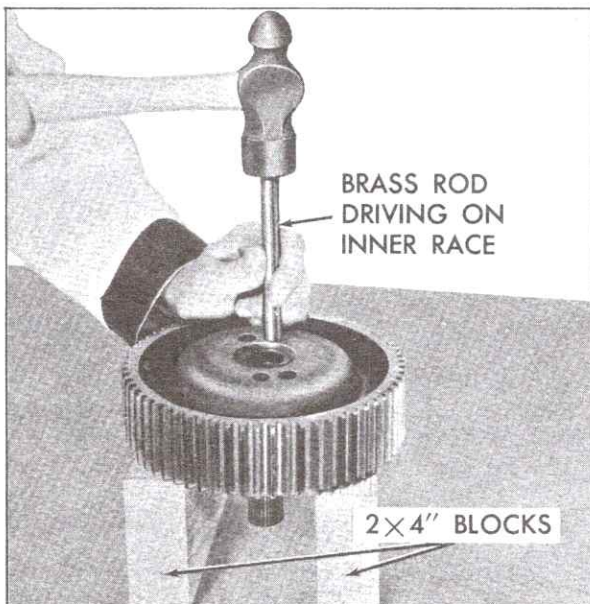

Fig. 7-151 Removing Sprocket Bearing Assembly
- c. With a hammer and brass rod, drive the inner race, alternately through each of the access openings, until the bearing assembly is removed from the sprocket hub, (Fig. 7-151)